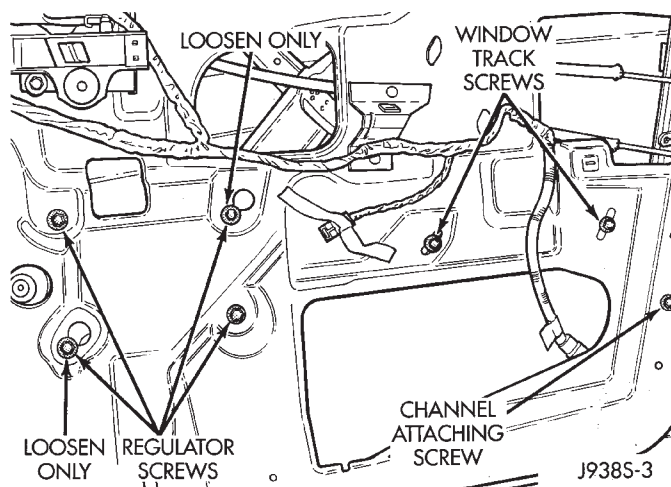

Fig. 5 Window Regulator Removal—Front Door
- (10) Slide glass rearward to remove from nuts.
- (11) Pull the glass to the full up position and tape the glass to the door.
- (12) Unplug the wire harness connector from the window regulator.
- (13) Remove 4 window regulator screws (Fig. 5).
- (14) Loosen the last 2 window track screws (Fig. 5).
- (15) Remove the window regulator.